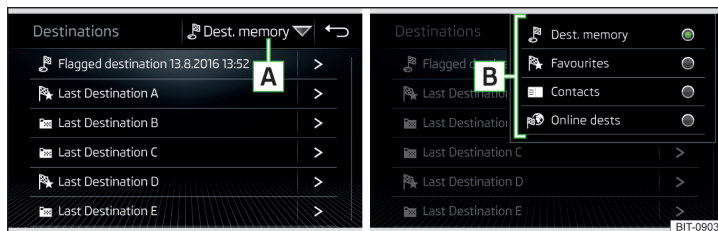

Fig. 218 Select list of stored destinations / categories of saved destinations
- ▶ Tap on function surface  » Fig. 218 and select one of the following categories of saved destinations  » Fig. 218.